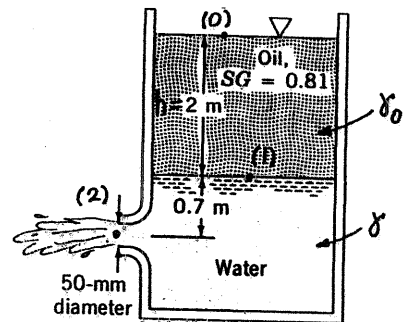

FIGURE P3.57
3.57 If viscous effects are neglected and the tank is large, determine the flowrate from the tank shown in Fig. P3.57.